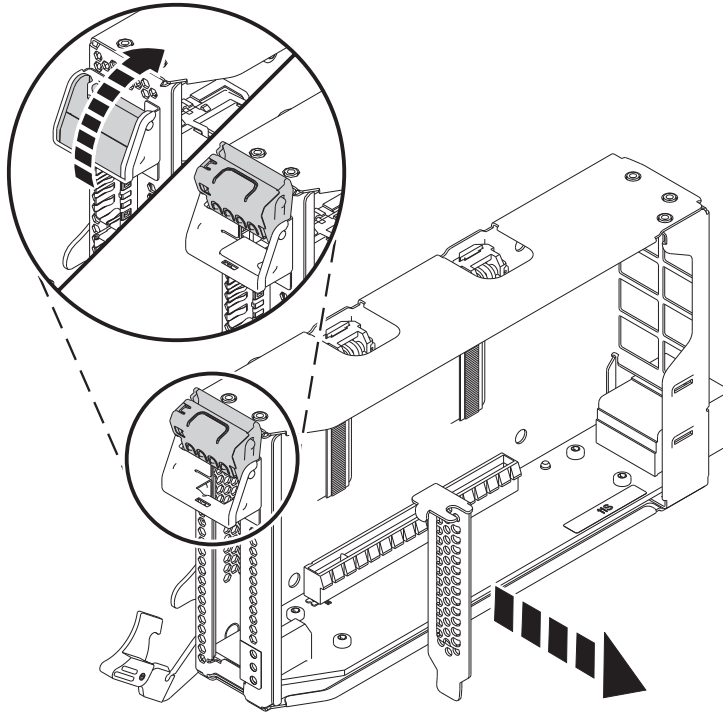

Figure 41. Removing the PCIe adapter filler from the adapter cassette
- c. To unlock the filler tailstock, rotate the latch that is located at the tailstock end of the cassette as shown in Figure 41 on page 40.
- d. Remove the filler tailstock from the cassette, as shown in Figure 41 on page 40.